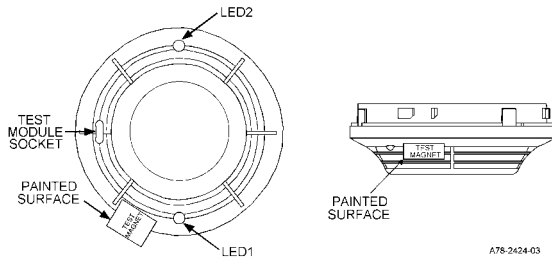

Figure 2. Test Magnet Positioning.
- See Figure 2. Test the sensor by positioning a test magnet (M02-24) against the sensor plastic just to the left of LED1. The alarm level should be recognized at the panel and the LED controlled by communication command from the panel.
1. Test the sensor by positioning the optional test magnet against the sensor plastic just to the left of LED1, as shown in Figure 2.